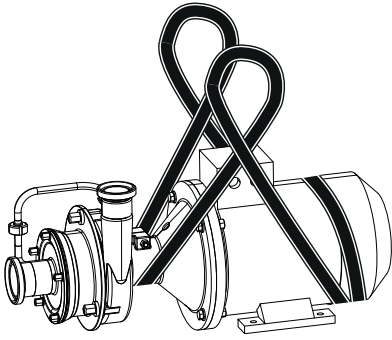

Fig. 12 Transport by crane
1. Place round sling twice around the rear end of the motor. Do not place over the fan hood (see Fig. 12 Transport by crane).